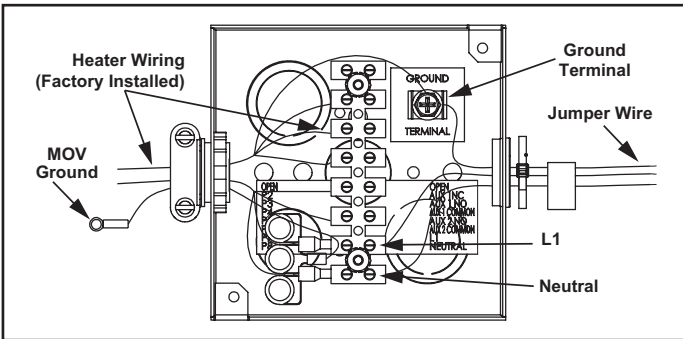

Figure 52. Junction Box Assembly
The 120 VAC hot wire from the power supply must connect to the black jumper wire or the "L1" terminal block location in the junction box and the 120 VAC neutral wire must connect to the white jumper wire or the "Neutral" terminal block location in the junction box for correct polarity. See Figure 52.
3. Connect the 120VAC hot wire from the power supply to the black jumper wire or the terminal block location marked "L1" inside of the junction box located on top of the water heater. If the black jumper wire is used, make the connection inside of the junction box with a properly sized wire nut and wrap electrical tape around the wire nut and wire end. See junction box Figure 52 on page 41 and wiring diagram Figure 61 on page 68.
4. Connect the 120VAC neutral wire from the power supply to the white jumper wire or the terminal block location marked "Neutral" inside of the junction box located on top of the water heater. If the white jumper wire is used, make the connection inside of the junction box with a properly sized wire nut and wrap electrical tape around the wire nut and wire end. See junction box Figure 52 on page 41 and wiring diagram Figure 61 on page 68.
5. Connect the ground wire from the power supply to the green jumper wire or the ground terminal location inside of the junction box located on top of the water heater. If the green jumper wire is used, make the connection inside of the junction box with a properly sized wire nut and wrap electrical tape around the wire nut and wire end. See junction box Figure 52 and wiring diagram Figure 61 on page 68.